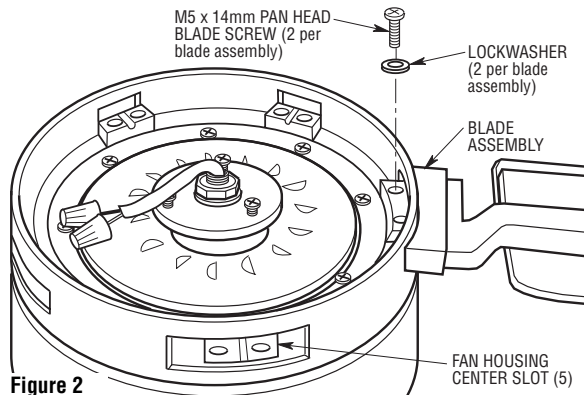

Figure 2
2. Slide blade/flange assembly through center slot in fan housing. Mount blade/flange assembly to fan motor assembly using three M5 x 14mm pan head screws and lockwashers (Figure 2)